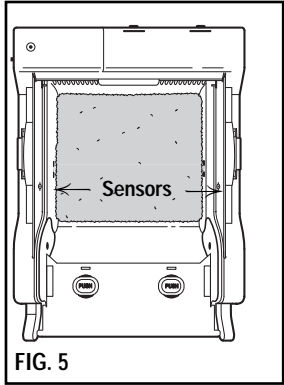

FIG. 5
5. Wipe sensor lenses with a soft cloth to keep sensors dust free (Fig. 5).
**SENSOR COVERS:** After changing or adding litter, always wipe each sensor cover with a soft, dry cloth to remove dust. The two sensors located on the interior side panels (Fig. 5) are protected by sensor covers that need to be kept dust-free.